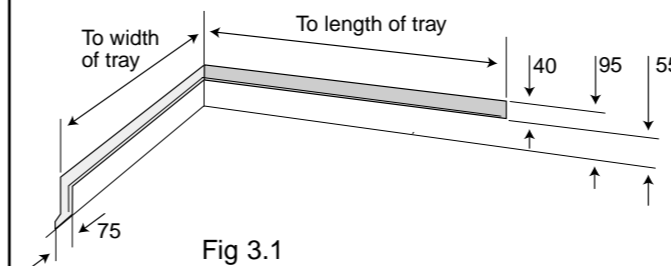

Fig 3.1
Position remaining wall section and fit as item 1. Note: Flange part of the wall channel should be approximately 18mm from tray edge. Decide on position of small panel and fix with screws, slot covers and shakeproof washers, as Fig 3.1/3.2. Do not fully tighten. Check black spiked seal is at the bottom. Decide on position of pole as Figs 3.3/3.4. Place in position with pole plate in place as Fig 3.5. Do not drill yet. Fix pole section to small panel with screws, slot covers and shakeproof washers. Do not fully tighten.
Remove the plaster below the mark you just made to a depth suitable to take the tiling lip, as Fig 3.1.